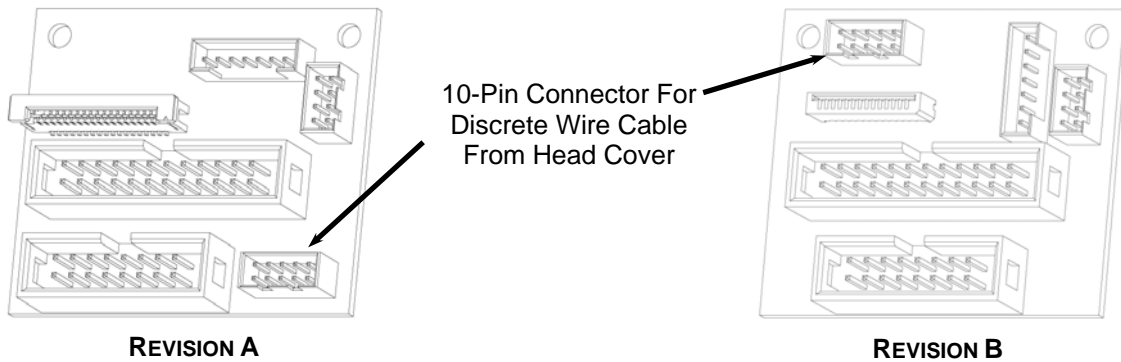

FIGURE 7: LOCATION OF CONNECTOR FOR HEAD COVER CABLE FOR THE EARLIER REVISION A AND LATER REVISION B MACHINES
6. **Unplug the head cover cable.** The head cover cable is located on the head connector board attached just to the left of the Y-drive motor (side opposite the AC motor). This cable has 8 wires and is terminated with a 10-pin connector. The location of this connector on the head connector board will vary depending on the machine's production date (See Figure 7). You may have to reach underneath the head to unplug the cable. Notice how the cable is routed alongside and under the Y-truck motor pack. This routing is important to remember when re-assembling the cover.